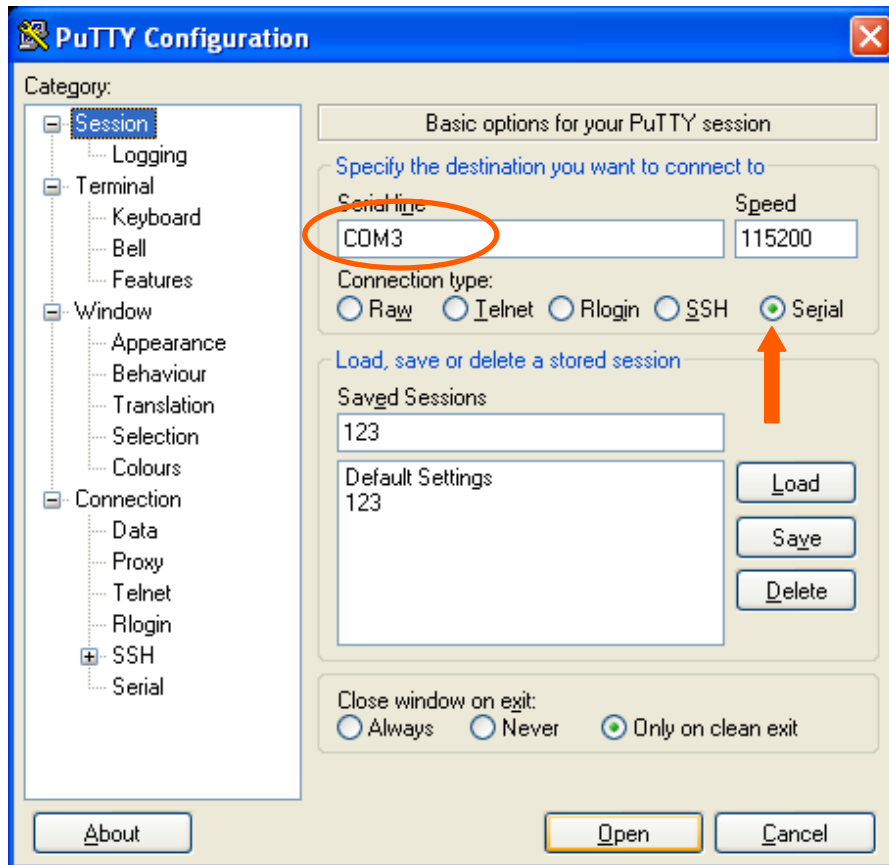

Figure 52: check if serial is selected and then select open
- Go to Session and check if “specify the destination you want to connect to “ is on Serial (See Figure 52)